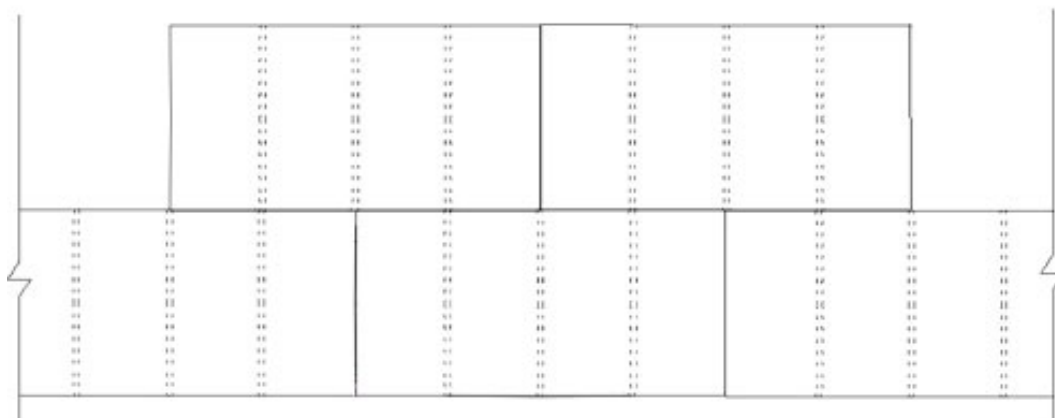

Figure 29
- 5. Install subsequent rows of insulation board in a running bond pattern (vertical joints staggered) as shown in Figure 29.